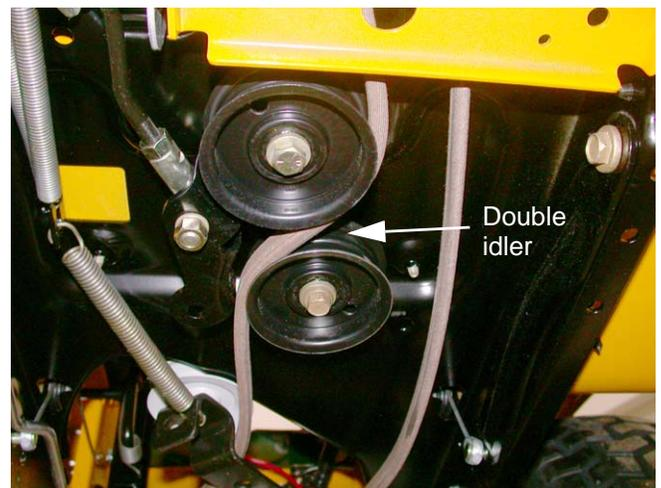

Figure 17.9
17.9. Locate the double idler pulley bracket beneath the tractor. See Figure 17.9.